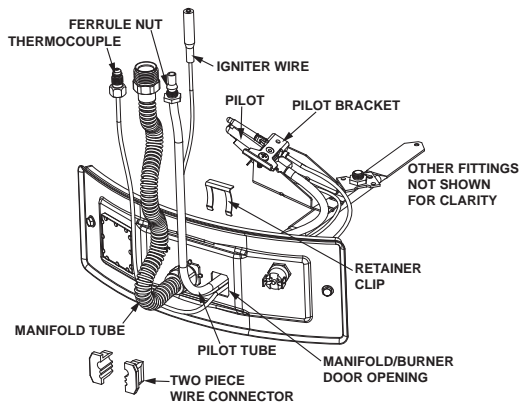

FIGURE 25.
2. Lift the retainer clip straight up from the back of the two piece wire connector (using a flat-blade screwdriver), then remove the two piece wire connector from the manifold door (Figure 25.)
7. Route the new pilot tube, thermocouple, and igniter wire through the manifold/burner door opening. (Figure 25)
11. Carefully bend the new pilot tube and thermocouple to match the bend of the manifold tube. NOTE: When bending DO NOT crimp or crease the pilot tube or thermocouple. (Figure 25)